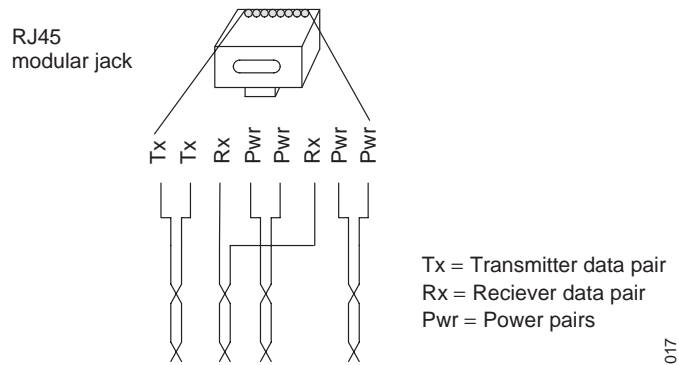
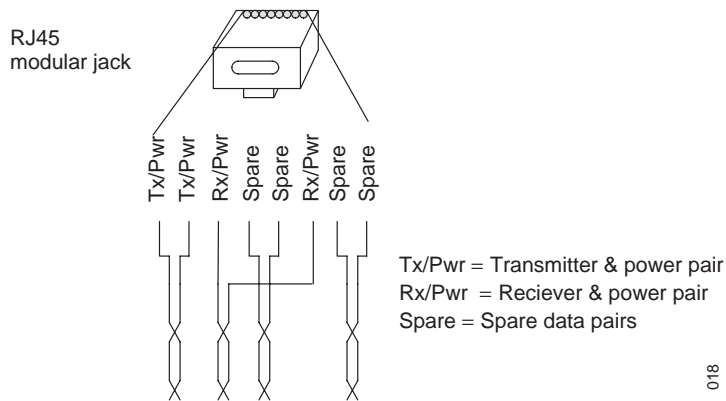

Figure 14. Connector pinning of the LAN/PoE connector, power feed over the spare cable pairs.
Figure 15. Connector pinning of the LAN/PoE connector, power feed over the Rx/Tx data cable pairs.
- 1 Cut the IPBS cable to the correct length and connect the cable to a RJ45 modular jack. For information on the pinning of the data jack, see figure 14 on page 30 and figure 15 on page 30. Do **not** plug the connector in the IPBS yet!